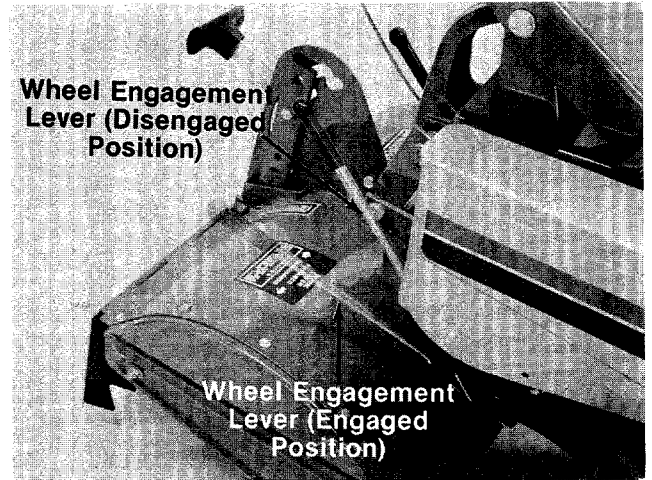

FIGURE 23.
3. Place wheel engagement lever in the **disengaged** position. See figure 23.
To engage wheels, move the lever outward. To disengage or stop wheels, move lever inward. See figure 23.
3. Place the wheel engagement lever in the disengaged position. See figure 23.